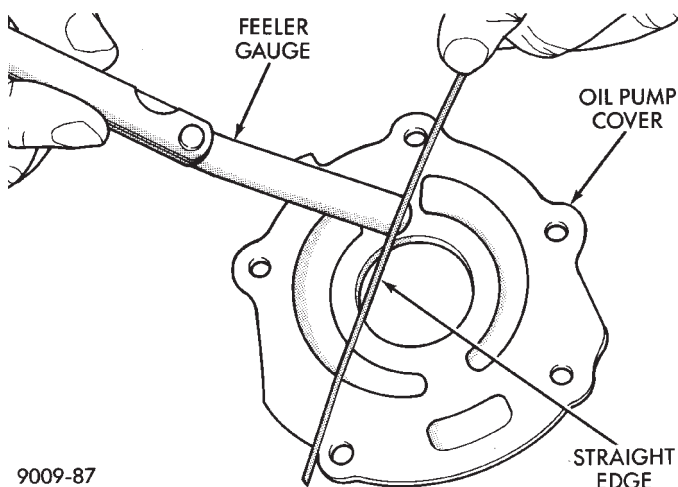

Fig. 7 Checking Oil Pump Cover Flatness
- (1) Clean all parts thoroughly. Mating surface of the chain case cover (CCC) should be smooth. Replace pump cover if scratched or grooved.
- (2) Lay a straightedge across the pump cover surface (Fig. 7). If a .076mm (.003 inch) feeler gauge can be inserted between cover and straight edge, cover should be replaced.